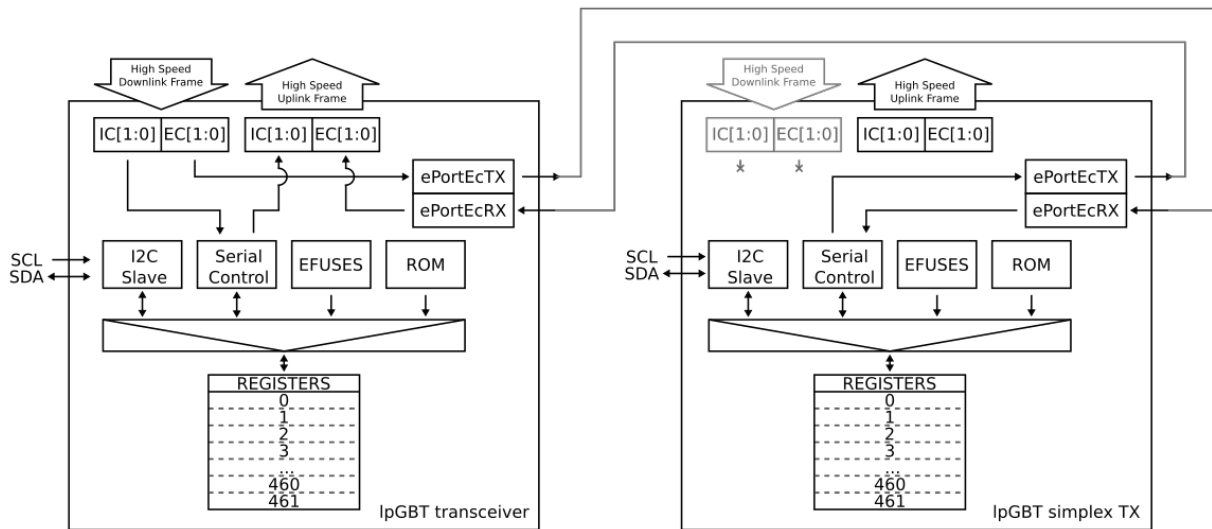

Fig. 3.1: IpGBT configuration
Figure Fig. 3.1 illustrates the different options for accessing the IpGBT registers.
4. **Through the serial interface.** In the transceiver mode, the data for the serial interface is taken from the IpGBT frame and hence requires that the full-duplex link is operational to allow write and read access (see left IpGBT in figure Fig. 3.1). In the simplex mode, the data is provided by ePortRxEc/ePortTxEc channel (see right IpGBT in figure Fig. 3.1). This interface is described in detail in Section 3.4.
The availability of IC or EC configuration interfaces is dictated by the mode of operation. If IpGBT is configured in transceiver mode, the IC channel is used to control the chip. Otherwise, in simplex transmitter or simplex receiver modes, the EC channel is used to control the chip (see Fig. 3.1).